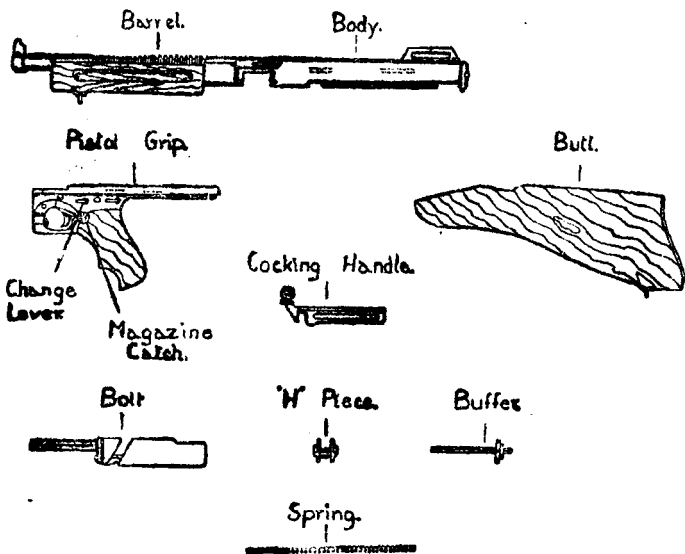

FIG. 2
*All parts will be named as dealt with (see Fig. 2).*
*Stores.*—Machine carbine ; magazines ; drill cartridges, if available ; Fig. 2 target.
(For names of parts see Fig. 2.)